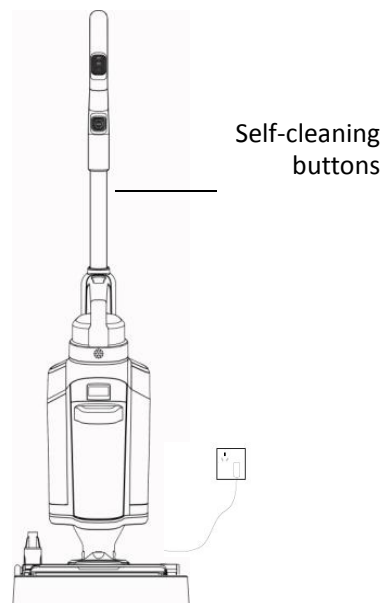

Figure 4-11
Step 2: Lift up and take out the waste water tank, as shown in Figure 4-11;